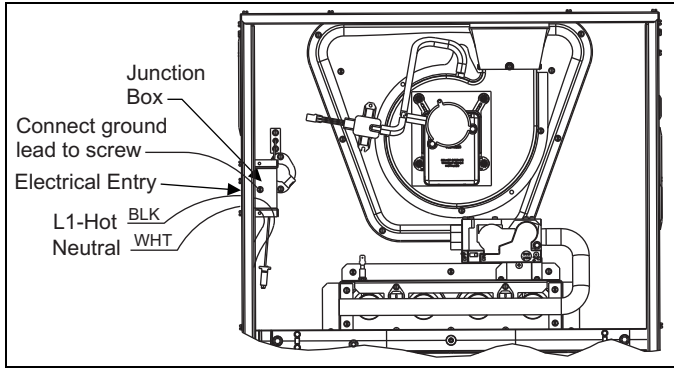

FIGURE 17: Electrical Wiring
2. Remove the screws retaining the wiring box cover. Route the power wiring through the opening in the unit into the junction box with a conduit connector or other proper connection. In the junction box there will be 3 wires, a Black Wire, a White Wire. Connect the power supply as shown on the unit-wiring label on the inside of the blower compartment door or the wiring schematic in this section. The black furnace lead must be connected to the L1 (hot) wire from the power supply. The white furnace screw must be connected to neutral. Connect the power supply ground to the green screw (equipment ground) An alternate wiring method is to use a field provided 2" (5.1 cm) x 4" (10.2 cm) box and cover on the outside of the furnace. Route the furnace leads into the box using a protective bushing where the wires pass through the furnace panel. After making the wiring connections replace the wiring box cover and screws. Refer to Figure 17.
3. The furnace's control system requires correct polarity of the power supply and a proper ground connection. Refer to Figure 17.